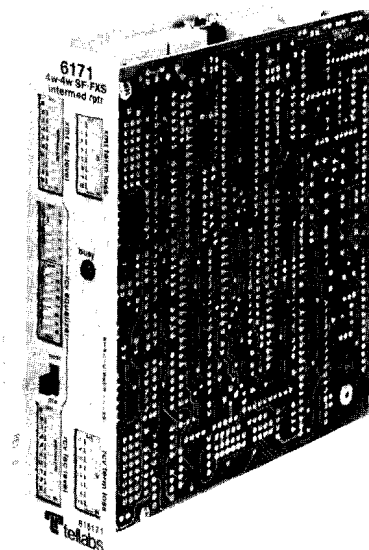

figure 1. 6171 4Wire-to-4Wire SF-to-FXS
1.01 The 6171 4Wire-to-4Wire SF-to-FXS Intermediate Repeater module (figure 1) provides both active transmission interface and bidirectional signaling conversion between a 4wire facility that uses 2600Hz single-frequency (SF) signaling and a 4wire metallic link (station loop or PBX trunk) that uses foreign-exchange station-end (FXS) loop signaling. This type of loop signaling is normally associated with the station end of both foreign-exchange (FX) and off-premises-station (OPS) circuits. The 6171 is designed in accordance with the specifications given in AT&T Technical Reference Pub 43001: Functional Criteria for Voice-Frequency Terminating Equipment/Metallic Facilities/Central Office.